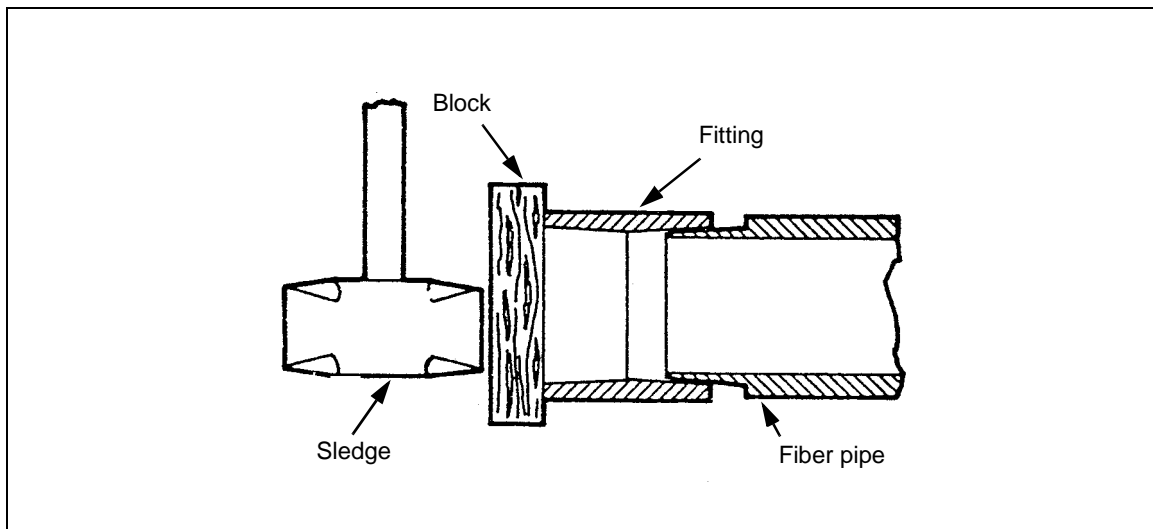

Figure 6-50. Joining Fiber Pipe
6-99. Join fiber pipe and fittings with a friction joint (*Figure 6-50*), as follows:
**Step 4.** Tap the block lightly with a sledge (*Figure 6-50*) to drive the pipe and fitting together until the fitting butts against the taper shoulder. The driving produces enough heat to fuse a watertight joint of the pipe and fitting.